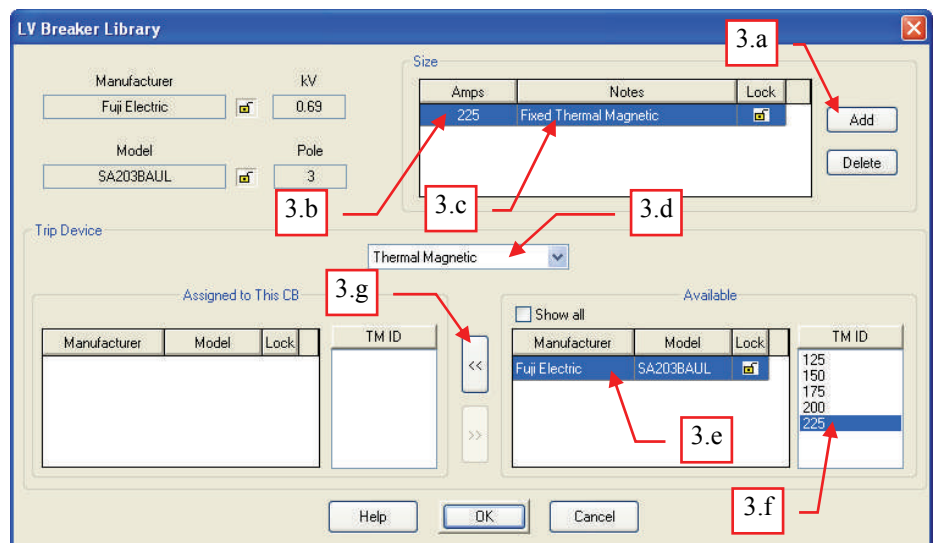

Fig. 26
3. In the “LV Breaker Library” dialog box, do the following (see Fig. 26):